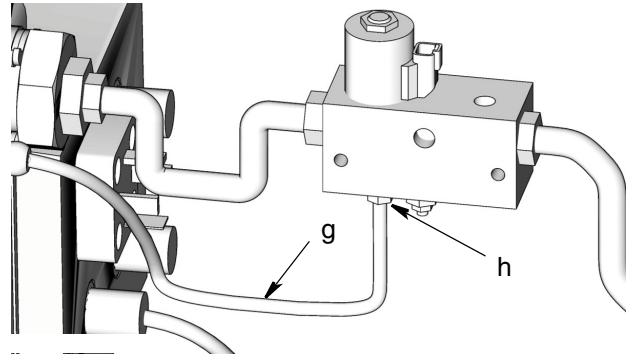

FIG. 4
6. Install vent tube (g) between vent port (h) and return fitting (FIG. 4).
NOTE: A vent line must be connected between the zone valve vent port (h) (FIG. 4), marked "V" on the vent valve block and the lubrication reservoir.